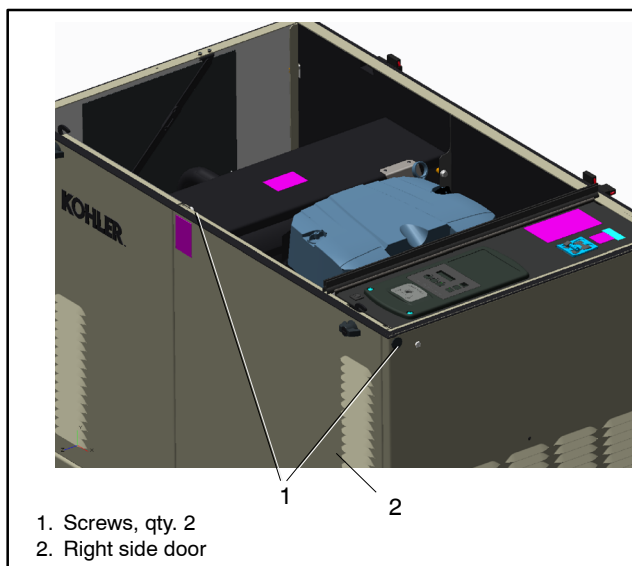

Figure 15 Right Side Door, 20RESL
- a. Remove the plug and two door screws. See Figure 15. Save the mounting hardware.